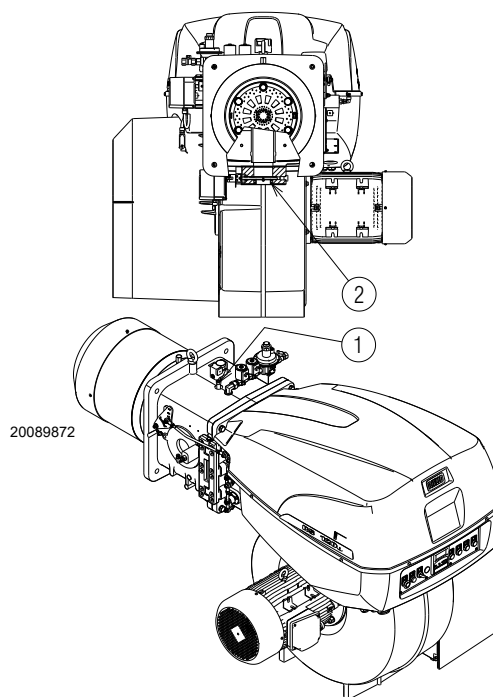

Fig. 21
Gas pressure measured at the test point 1)(Fig. 21 on page 22), with:
Pressure loss at gas butterfly valve 2)(Fig. 21 on page 22) with maximum opening: 90°.
- subtract the combustion chamber pressure from the gas pressure measured at test point 1)(Fig. 21 on page 22).
Gas pressure at test point 1)(Fig. 21) = 59.2 mbar
To calculate the required gas pressure at test point 1)(Fig. 21), set the maximum modulating output required from the burner operation:
- read, on the right (column 1), the pressure at the test point 1)(Fig. 21).
Pressure required at test point 1)(Fig. 21).